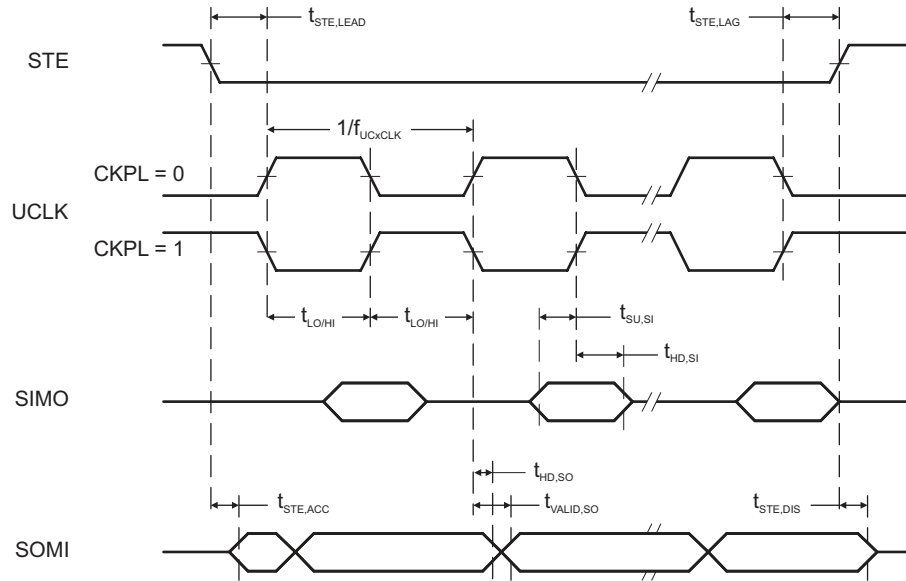
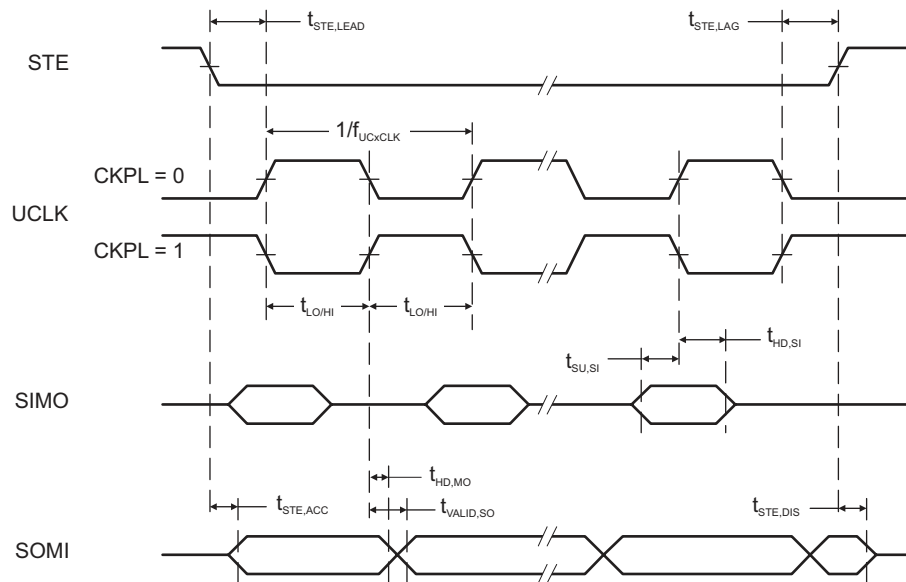

Figure 5-15. SPI Slave Mode, CKPH = 0
Figure 5-16. SPI Slave Mode, CKPH = 1
(see Figure 5-15 and Figure 5-16)
- ⁽²⁾ Specifies the time to drive the next valid data to the SOMI output after the output changing UCLK clock edge. See the timing diagrams in Figure 5-15 and Figure 5-16.
- ⁽³⁾ Specifies how long data on the SOMI output is valid after the output changing UCLK clock edge. See the timing diagrams in Figure 5-15 and Figure 5-16.